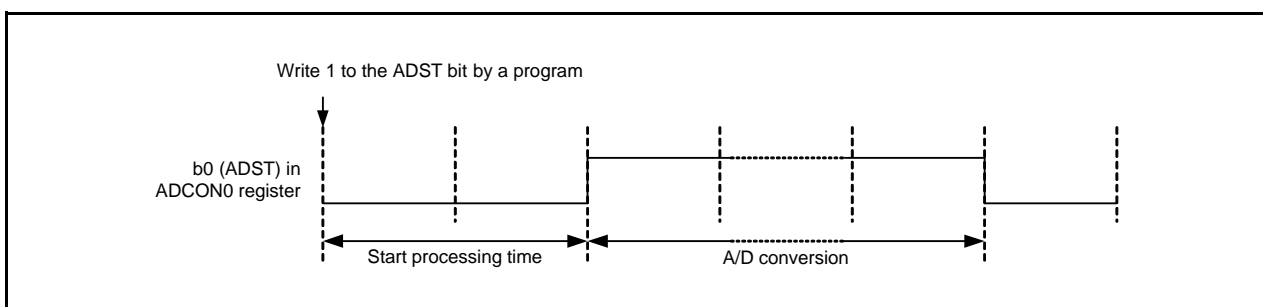

Figure 23.2 ADST Bit Operation
- When 1 is written to the ADST bit by a program, it is set to 1 (A/D conversion starts) after start processing time (refer to **Table 23.5 Number of Cycles for A/D Conversion Items**). Thus, if this bit is read immediately after 1 is written, it may be read as 0 (A/D conversion stops) (refer to Figure 23.2).